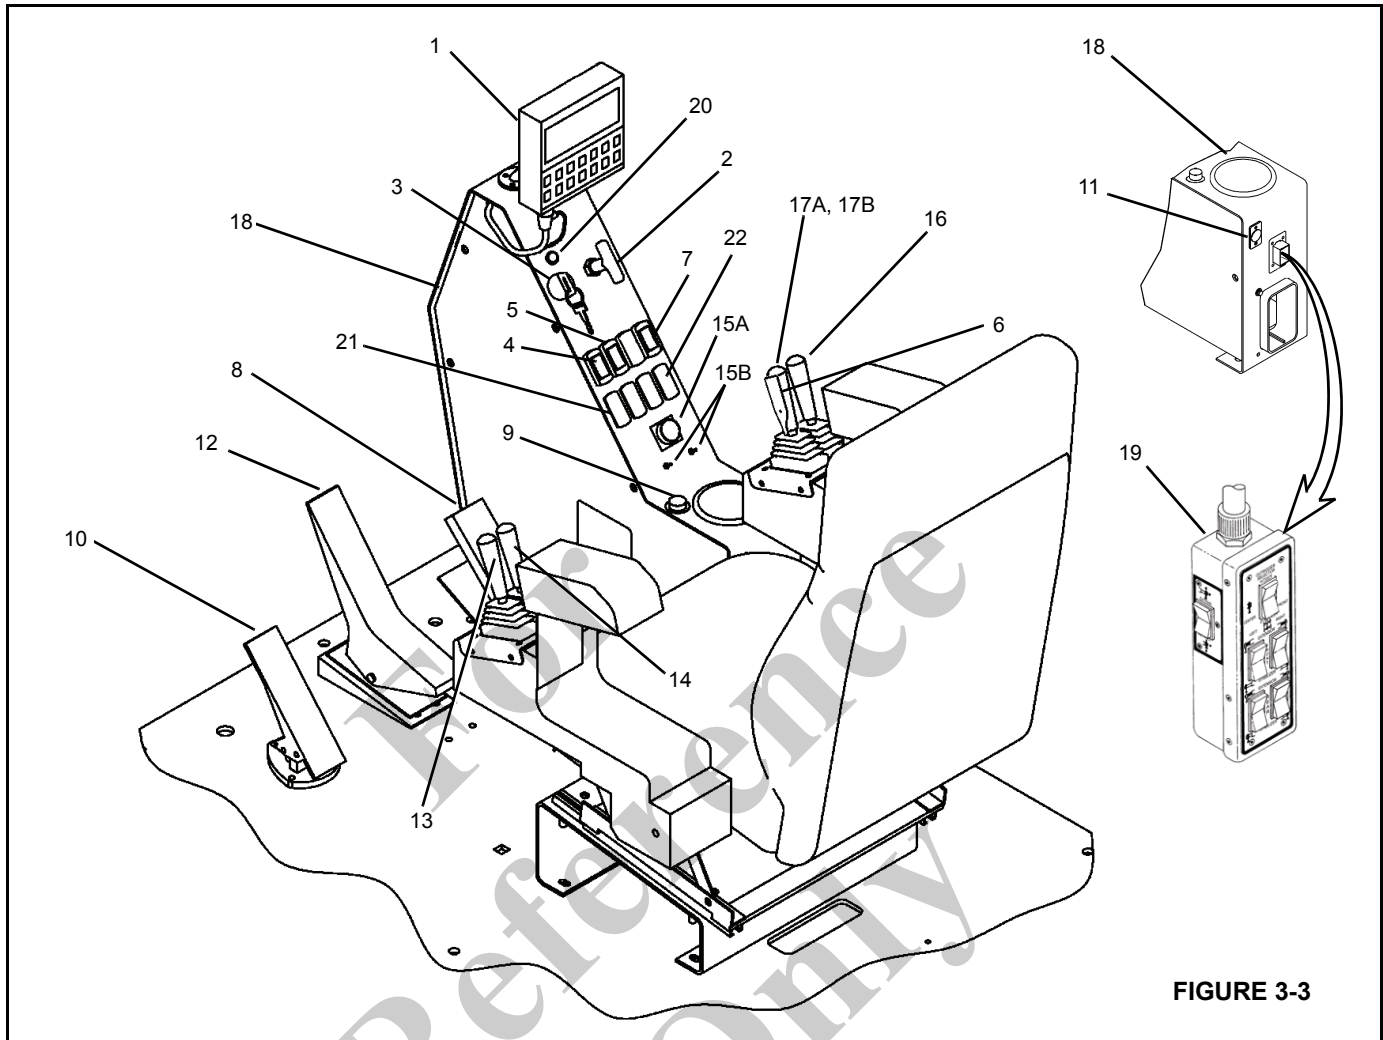

FIGURE 3-3
The optional secondary level indicator is located in the crane cab (4) (Figure 3-3) and is installed when a second handheld outrigger control box for the crane cab is purchased.
The crane controls are located in the crane cab and are used for all crane functions. See (Figure 3-3) for crane cab item number (#) identification. For best control response, run the engine at governed RPM when operating the crane.
The swing horn switch (4, Figure 3-3) is located on the crane cab console. Push the switch to sound the horn button to warn fellow workers on the job site of pending movement of crane. An amber LED is illuminated when the switch is on.
The swing control lever (13, Figure 3-3) is located on the left armrest and controls boom rotation. Push the lever forward to rotate the boom clockwise and pull back to rotate the boom counterclockwise.
The swing brake pedal (10, Figure 3-3) is located on the left side of the crane cab floor. The brake pedal is used to activate the swing brake and momentarily hold the turret in position.
The telescope control lever (14, Figure 3-3) is on the left armrest. Push the lever forward to extend the boom and pull back to retract the boom. If this machine is equipped with the wireline option this lever is used to feed and retract the wireline (see the Boom Telescope Pedal).
The telescope foot pedal (12, Figure 3-3) is located on the crane cab floor and is used to extend and retract the boom. Rock the pedal forward to extend the boom and back to retract the boom. This pedal is used with wireline machines, if this machine is not equipped with the wireline option the Telescope Control Lever (14) is used to extend and retract the boom.
The hoist control lever (17, Figure 3-3) is located on the right armrest. Push forward to lower the load and pull the lever back to raise the load.
The BOS switch (6, Figure 3-3) is located on hoist control lever and is used to increase speed of the hoist. Press the switch to activate the BOS function.
The hoist rotation indicator is located on top of the hoist control lever (17B, Figure 3-3). The indicator is electronically driven by a signal from an electronic transmitter and sensor attached to the hoist. A pulsating signal is sensed by the operator's thumb during hoist operation.
The boom lift control lever (16, Figure 3-3) is located on the right armrest and is used to raise and lower the boom. Push the lever forward to lower the boom and pull back to raise the boom.
The foot throttle (8, Figure 3-3) is located on the crane cab floor and is used to control the engine speed. Depress the foot throttle to accelerate the engine speed and release to return to idle.
The hand throttle (2, Figure 3-3) is located on the crane cab console. Pull out and rotate to lock to accelerate engine. Turn to unlock and push in to return engine to idle speed. Increasing engine speed increases operating speed.
The outrigger control box connector (19, Figure 3-3) is located at the bottom of the crane cab console. The connector provides power to the outrigger control box for outrigger operation from the crane cab.
The Radio Remotes Power Switch (21, Figure 3-3) is an On-N-On (momentary) style rocker switch, it must be pressed to the on position before the optional Radio Remotes can be used.
The LMI Override Switch (22, Figure 3-3) is an On-N-On style rocker switch. Pressing the switch to the On position re-engages the boom down, telescope out and hoist up controls. These functions were disabled when an overload condition was sensed by the Load Moment Indicator (LMI). It is important to read and understand the LMI Override Warning information in the LMI Operator's Manual before using the LMI Override.
The cab climate controls (15) (Figure 3-3) are used to adjust the heating and air conditioning for operator comfort.